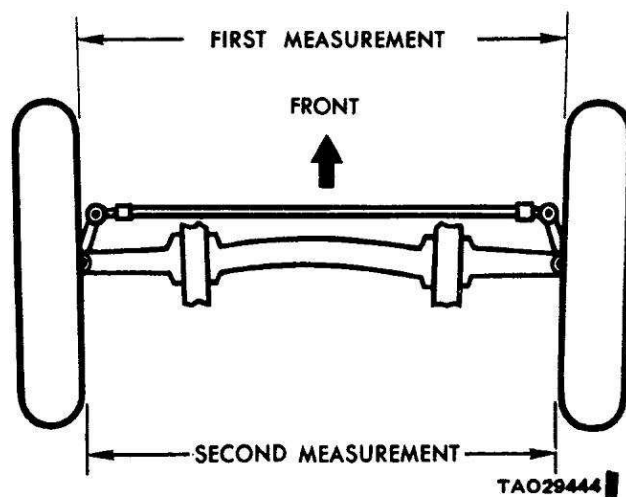

Figure 2-91. Front Wheel Toe-In.
b. Measuring Toe-In. Use the following procedure. Refer to figure 2-91.